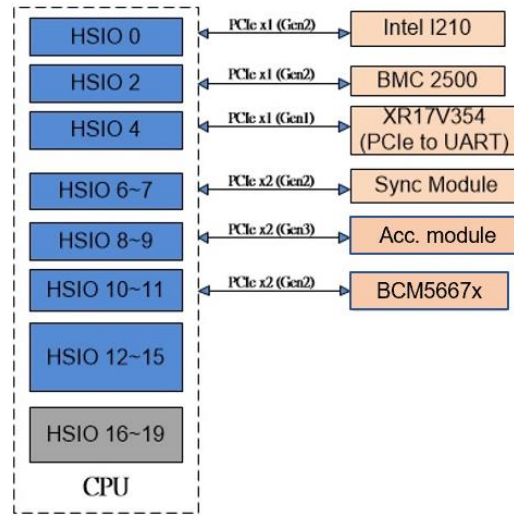

Figure 8 PCIe Topology Block Diagram
- Network Interface: 1000 Base-T. In Open edge switch, the 1000 Base-T is routing on the server sled towards back plane →PDB→ finally to the Broadcom Ethernet switch BCM53158 on RMC as shown in Figure 8.